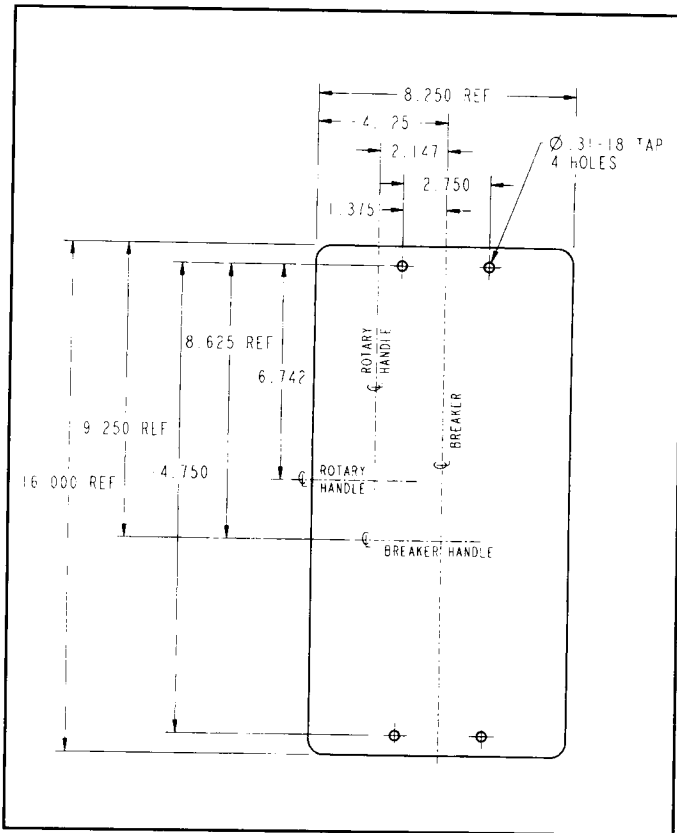

Fig. 2-1 Drill & Tapping Plan for N-Frame Breaker
1. Determine position for circuit breaker in enclosure. Drill and tap circuit breaker mounting holes in enclosure mounting surface as shown in Figure 2-1.